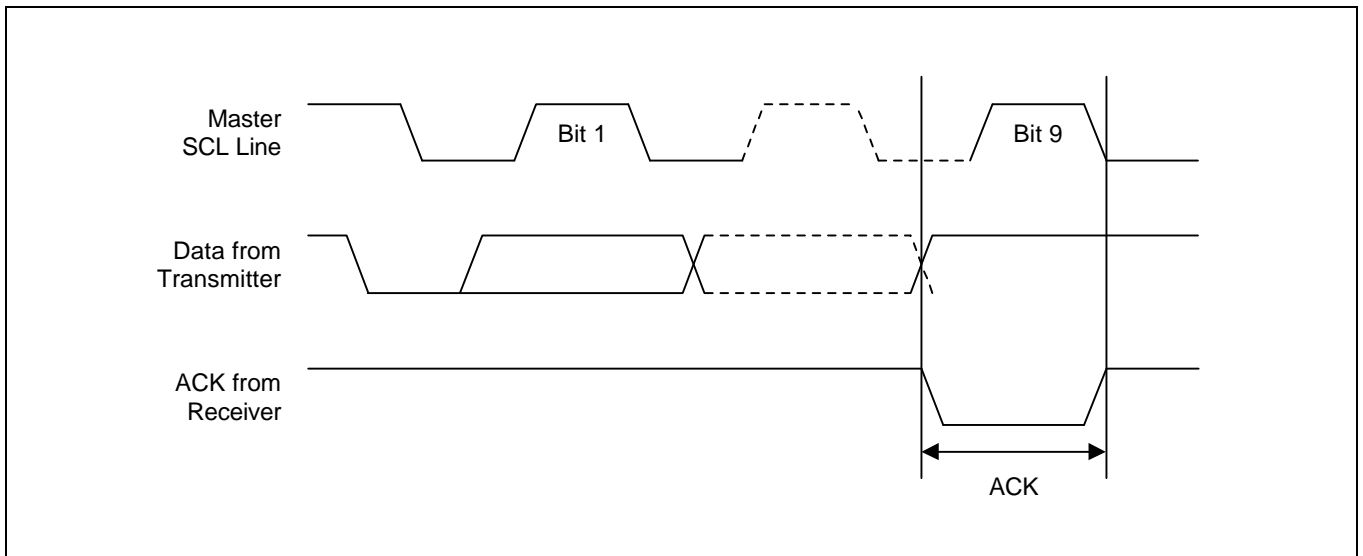

Figure 6-8. Acknowledge Response From Receiver
- **ACK (Acknowledge):** An ACK signal indicates that a data transfer is completed successfully. The transmitter (the master or the slave) releases the bus after transmitting eight bits. During the 9th clock, which the master generates, the receiver pulls the SDA line low to acknowledge that it has successfully received the eight bits of data (see Figure 6-8). But the slave does not send an ACK if an internal write cycle is still in progress.